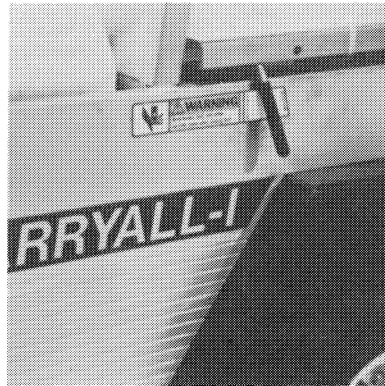

Figure 13
1. Both the Carryall-I and Carryall-II are equipped with a bed latch on the driver's side of vehicle as standard equipment (See Figure 13).